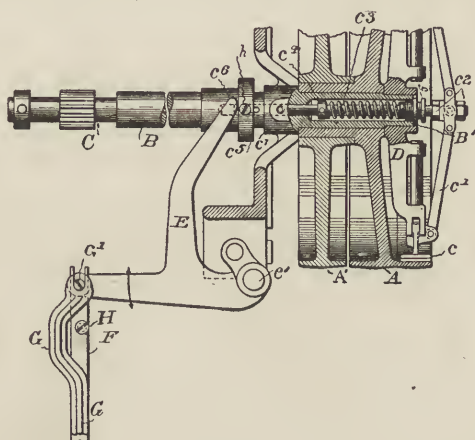
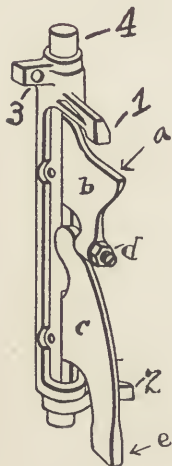

FIG. 16.
FIG. 17.
lent drawing of the clutch here (Fig. 16). B is the driving shaft of the machine, which is in two sections,
by means of the long screw-pin *h* to the collar *c*⁵ which encircles the shaft, the hole in the shaft being slotted, so that when the collar is moved the rod *c*⁴ is likewise moved. On the outward end of the shaft the friction clutch *D* is mounted, the levers *c*¹ being fastened to the end of the rod *c*⁴. When the clutch is thrown into action, the collar *h* is released and the rod *c*⁴ is forced inward by the spring *c*³, thus drawing the levers *c*¹ inward and pressing the clutch leathers *c* against the inner side of the revolving pulley *A*, causing the shaft *B* to revolve and the cams to rotate. This is the position shown in the drawing. This position of the clutch is maintained until the stopping pawl on cam 10 comes in contact with the throw-off lever " (*a*, Fig. 17).
"The stopping pawl strikes on top of the lever (*b*), forcing it downward, the adjusting screw (*d*) pressing the lower end of the lever (*c*) outward, and as its point (*e*) presses against the forked lever *E* (Fig. 16), which is pivoted on the machine frame at *e*¹, you can
"The last time the inspector was around here," said the Machinist, "he put a new connecting rod (G , Fig. 16) on all these machines, so that now the readjustment of the clutch does not affect the automatic devices in the vise. The clutch adjustment consists in allowing a space of $15/32$ of an inch between the collar c^5 and the bearing c^7 when the clutch is in action, as in the drawing, this being regulated by the nuts c^2 on the end of the rod, and having $1/32$ of an inch space between the end of the forked lever c^6 and the collar c^5 , the screw in the stop lever (d , Fig. 17) being the means of making this latter adjustment. I have a piece of steel $15/32$ of an inch wide and $1/32$ of an inch in thickness which I use when setting the clutch, so measurements don't bother me. Now, however, the company makes the position of the clutch fixed by doing away with the nuts on the end of the rod and putting a screw through the levers."
"That screw H on the starting and stopping rod F " (Fig. 16), said the Machinist, "stands just behind the lug on the vertical lever (2, Fig. 17), and when the lever is pulled out the screw engages the lower lug and causes the upper lug (1) to push the stopping pawl off the stop lever (b), producing the same effect as if the line-delivery carriage were sent over. A spring pressing on the projection (3) retracts the vertical lever. These are the adjustments which should be maintained: Set the automatic stopping and safety pawls so that the distance from right edge of cam 10 to right side of pawls is 15-16 of an inch; then set the stop-lever rod (4), held by the small square-head screw in top bearing so that the pawls will rest on the stop lever (b) $\frac{1}{4}$ of an inch. By means of the plates carried by the pawls, set them so that the rollers will push them far enough to the right to clear the stop lever 1-16 of an inch. Adjust the vertical lever by means of the screw in the machine frame so that the lug (1) will clear the pawls as they pass 1-64 of an inch, and push them far enough to the right, when operated by the starting lever, to give a clearance of 1-16 of an inch between them and the stop lever."